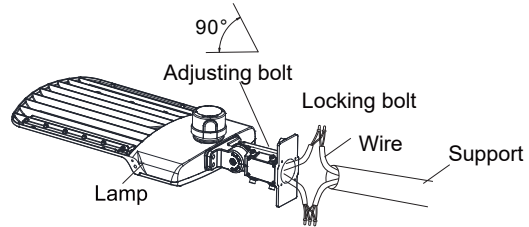

Figure 14
Step 2: Loosen the four bolts on ADM bracket, connect the wires correctly, and pull the wires into the poles.(Figure 14)
Step 3: Place the bracket into the pole and lock the four bolts. (Figure 14)
Notice: Adjustable angle is 0-90°(Figure 14)